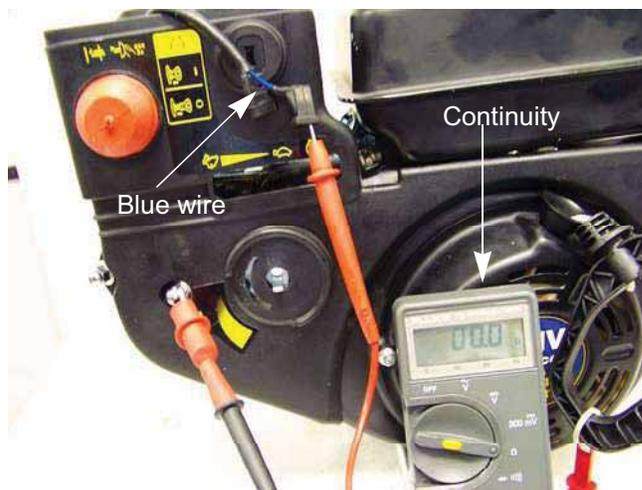

Figure 7.8
- If the multimeter shows continuity, Check the black wire from the module for an open or replace the module. See Figure 7.8.